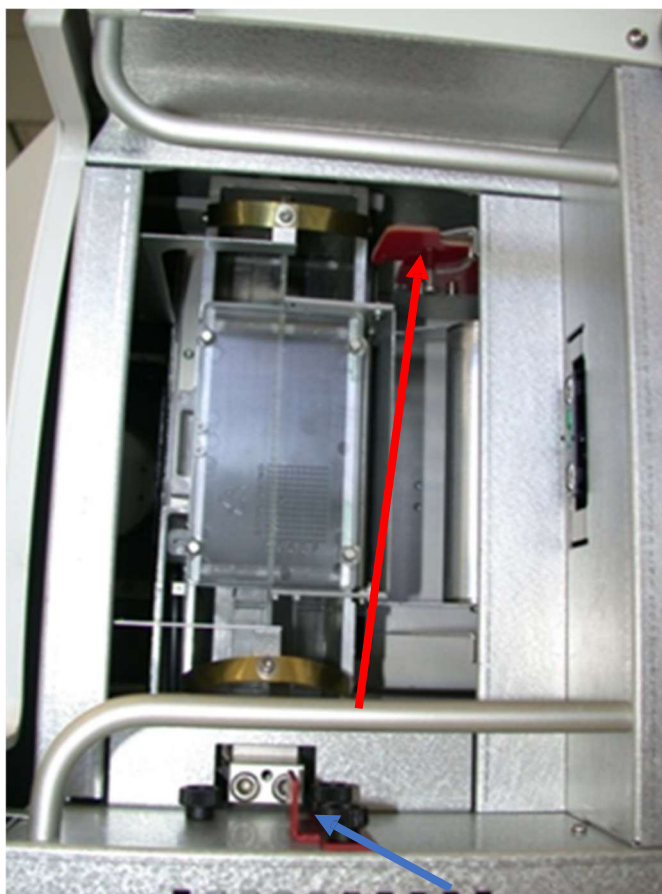

Figure 1. Transport lock #1 (red arrow) and #2 (blue arrow).
- 7.6.1 Figure 1 indicates the positions of the two transport locks in the unlocked position.